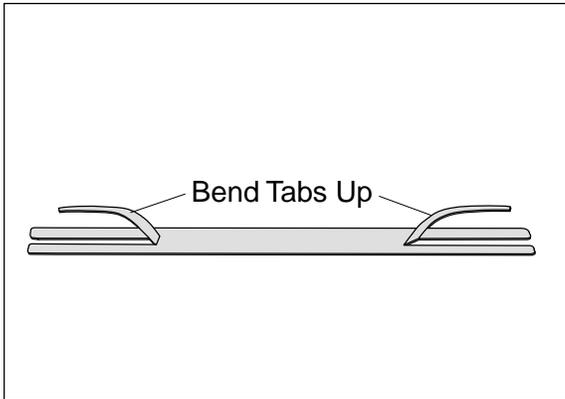

Figure 8
1. Bend tabs to provide a $\frac{1}{2}$ " dead air space between exhaust pipe and heat shield (Figure 8).